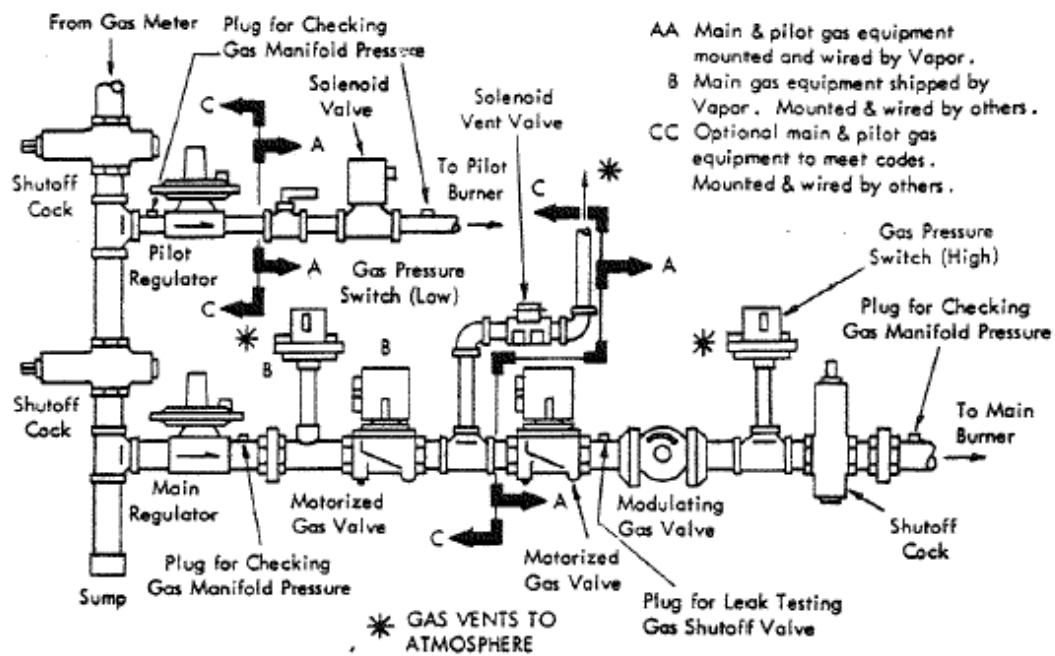
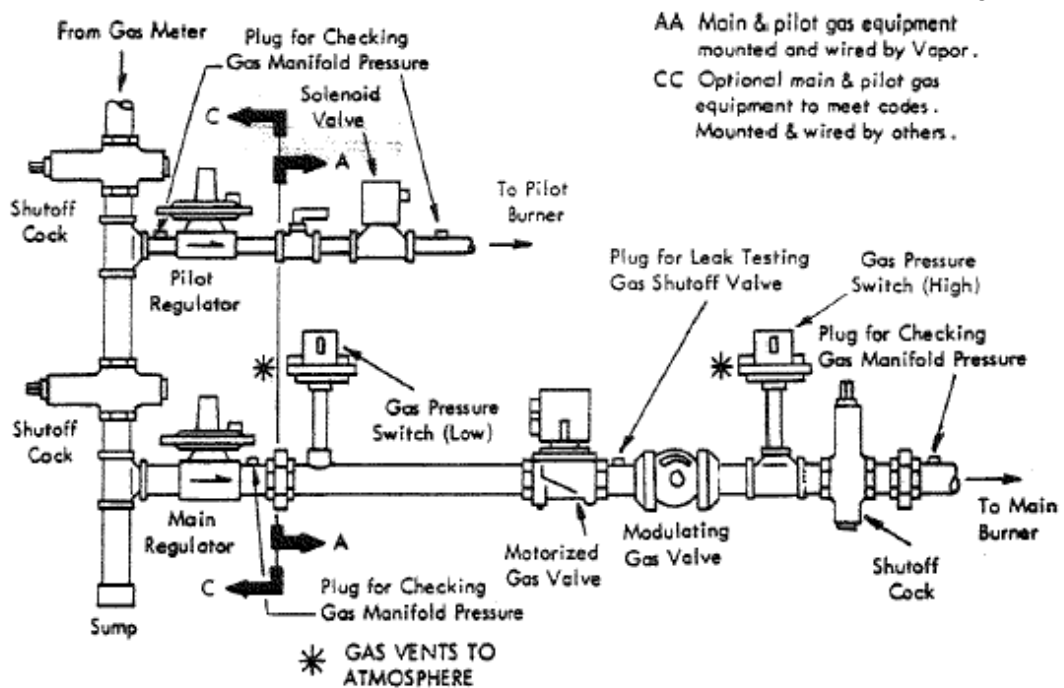

Figure 17, Piping For I.R.I.
Figure 18, Piping For F.M.
10.2.7 Boiler installations under jurisdiction of I.R.I. or F.M. require additional gas equipment than what is normally supplied. Figure 17 illustrates the piping arrangements for I.R.I., Figure 18 for F.M. equipment.